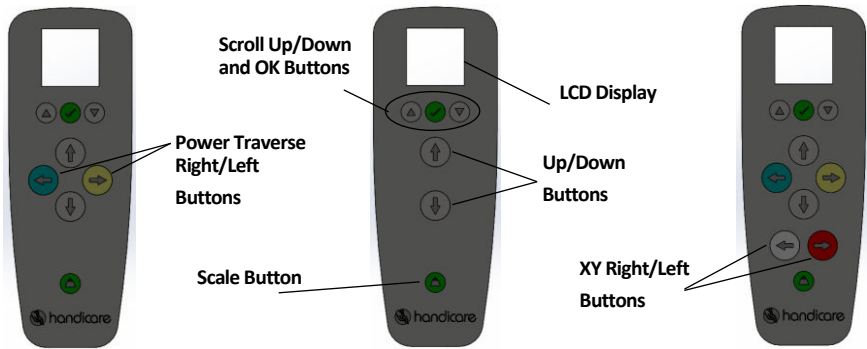

Figure 3: A-450/A-625 Hand Controls for Power Traverse, Manual Traverse, and Power Traverse XY Lift Systems (Left to Right)
- Figure 3 shows the hand controls for Manual Traverse, Power Traverse, and Power Traverse XY lift systems.